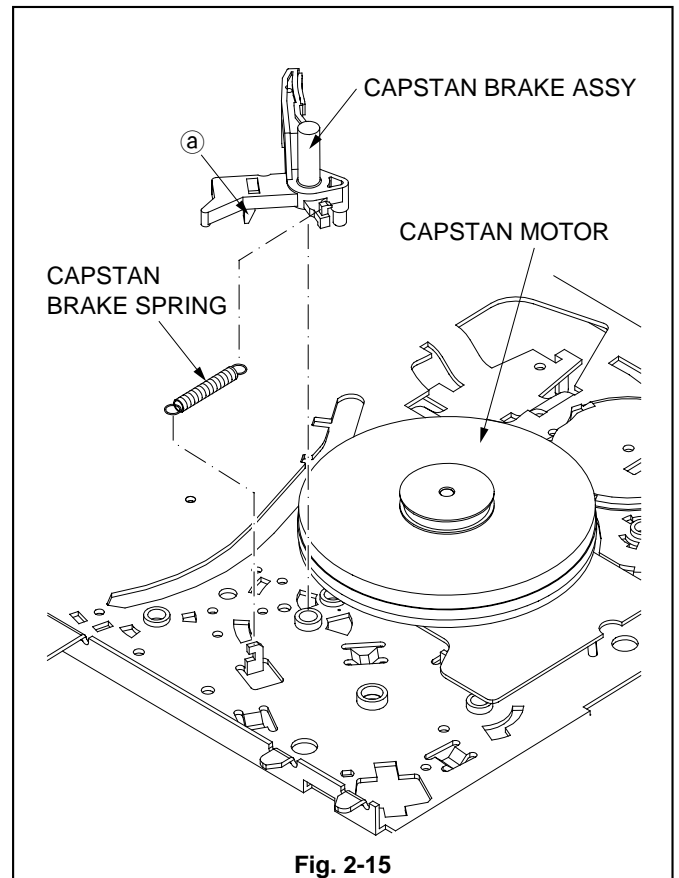

Fig. 2-15
1. Remove the CAPSTAN BRAKE SPRING shown in the Fig. 2-15.
2. Remove the catch (a) of the CAPSTAN BRAKE ASSY shown in the Fig. 2-15 to remove the CAPSTAN BRAKE ASSY.
1. Install the CAPSTAN BRAKE ASSY shown in the Fig. 2-15.
2. Install the CAPSTAN BRAKE SPRING shown in the Fig. 2-15.